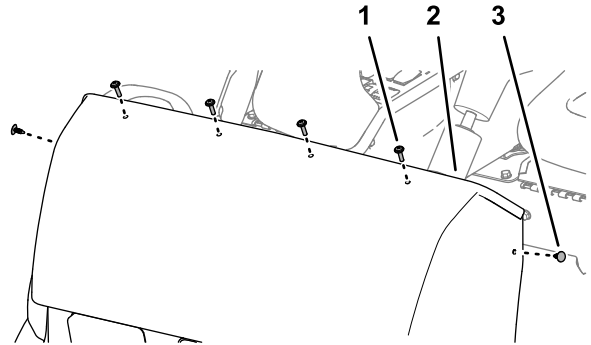

Figure 94
2. Assemble the hood to the dash support with 2 push-in fasteners (Figure 94).
3. Secure the hood to the dash support (Figure 94) with 4 Phillips pan-head screws (1/4 x 1 inch).